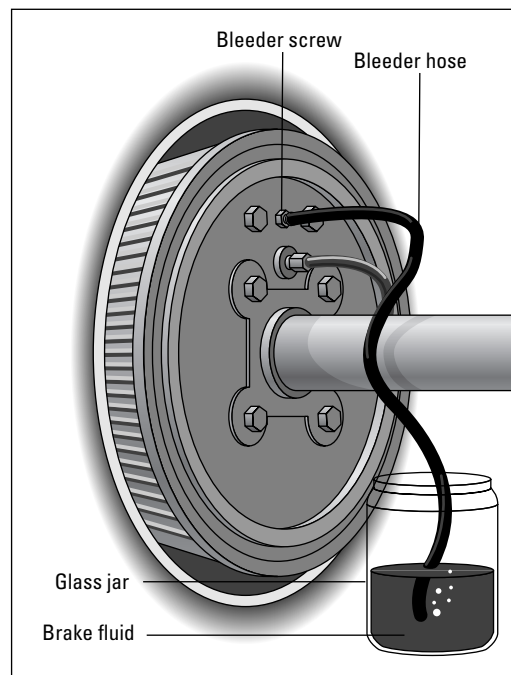

Figure 15-9: Using a bleeder hose to bleed your brakes.
1. Find the little nozzle called a *brake bleeder screw* (see Figure 15-9) that's located behind each of your brakes.
3. If you have a small piece of flexible hose that fits over the end of the bleeder screw, attach it and place the end of the hose in the jar. Then fill the jar with brake fluid to cover the end of the hose (see Figure 15-9). If you don't have anything that fits over the bleeder screw, just keep the jar near the nozzle so that any fluid that squirts out lands in the jar.